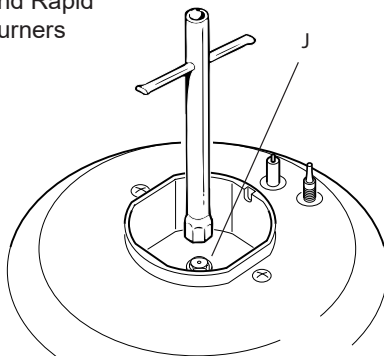

fig. 2.4
- Using a wrench, substitute the nozzle injectors “J” (figs. 2.4, 2.5) with those most suitable for the kind of gas for which it is to be used.